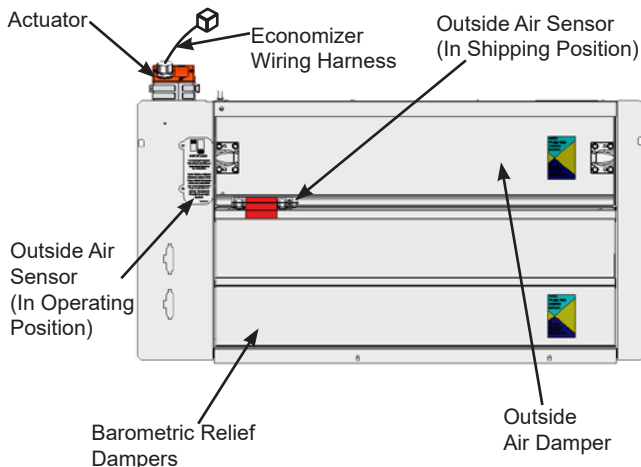
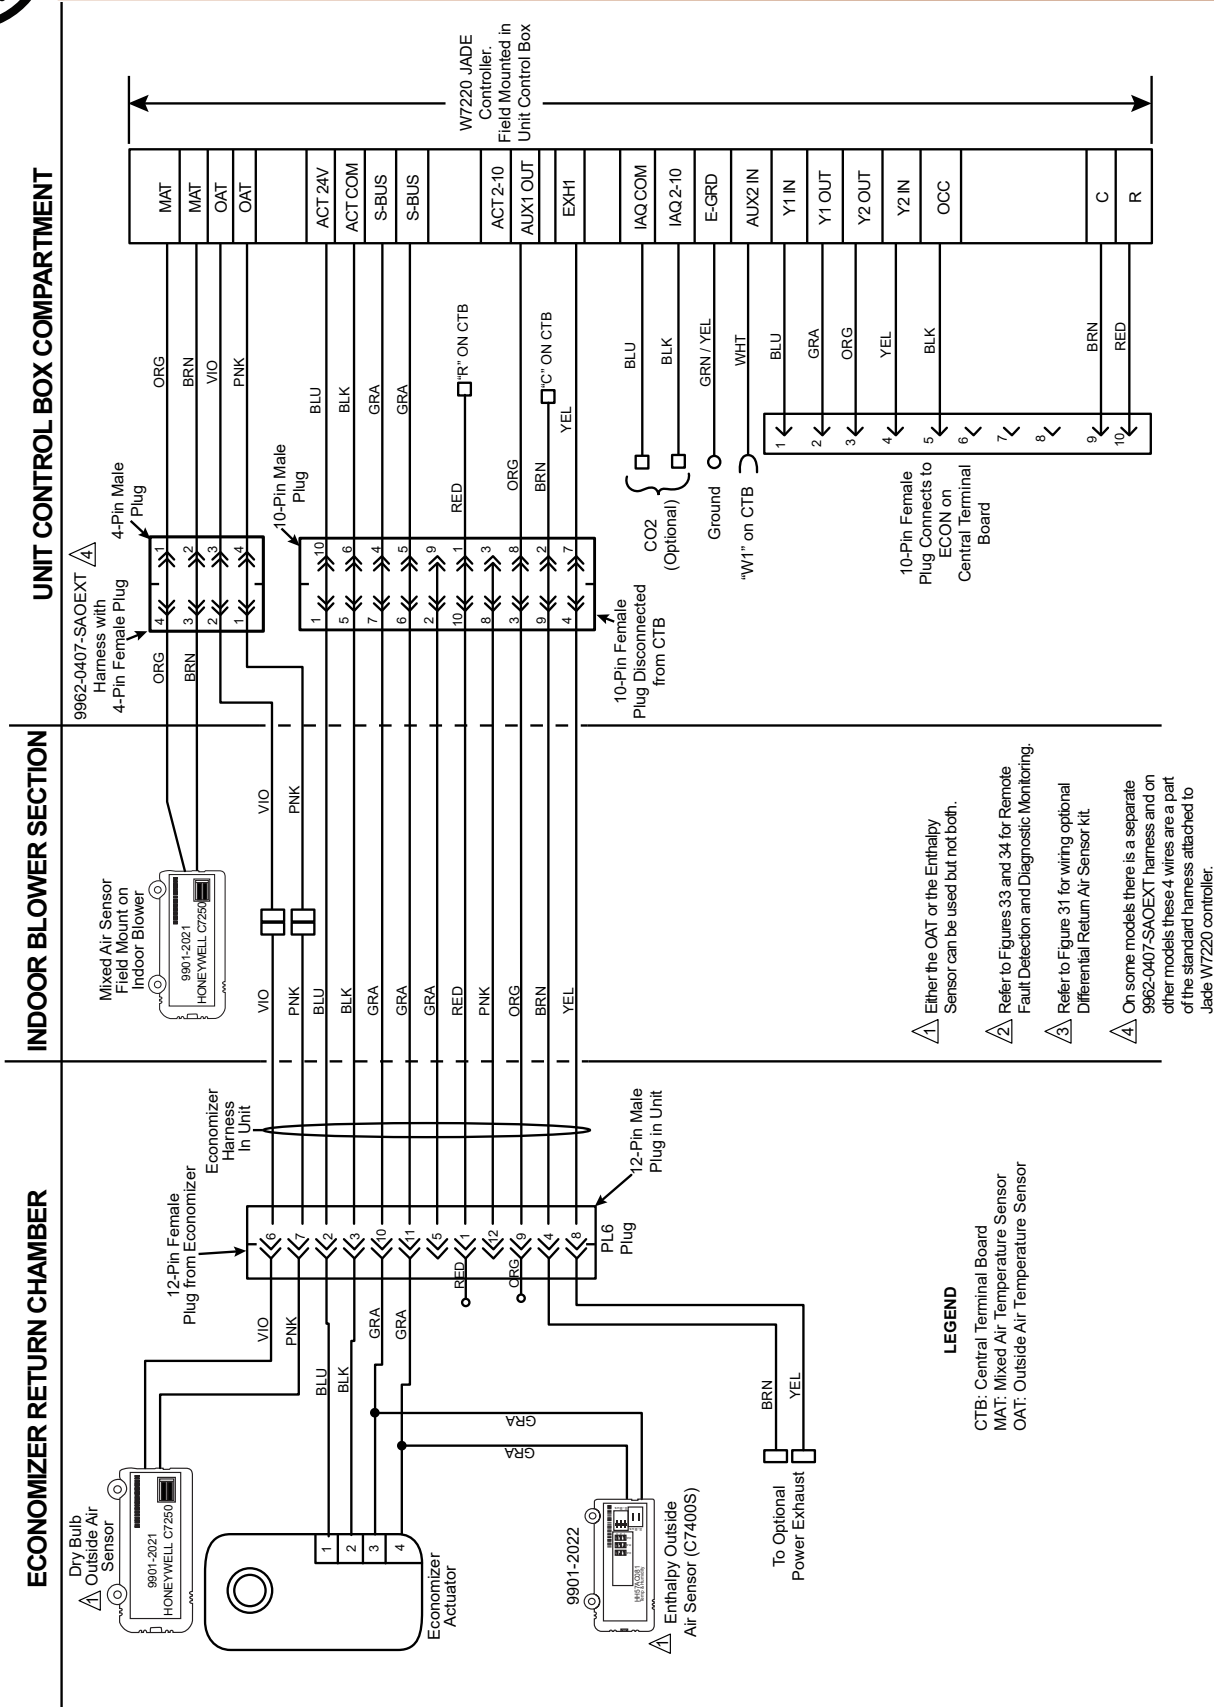

Fig. 1 - Economizer Component Locations — (ECD-SRT12CA-D2*H Shown)
Figure 23 – Typical Economizer Wiring Diagram for 1 or 2 Speed Units
Step 6: Remove the red tape securing the relief dampers for shipping purposes. Relocate the outside air sensor from its shipping location to its operating position, see Fig. 1
Step 7: If an economizer with a dry bulb sensor will be operating with an enthalpy outside air sensor, remove the factory installed 9901-2021 dry bulb sensor from the front face of the economizer (see Figure 1), and install the accessory enthalpy sensor 9901-2022 in the same location as the dry bulb sensor. Connect the (2) wire gray harness with plug from the economizer to the enthalpy sensor. See wiring diagram Figures 23 and 28. Refer to "9901-2022 Outside Air Enthalpy Sensor" section for more details on enthalpy settings
The (2) gray wires with a plug from the economizer harness in the return chamber plug directly into the 9901-2022 enthalpy sensor. See Figures 23 and 28 for wiring.
Refer to economizer wiring diagram Figures 23 and 28 and DCV instructions if demand control ventilation (CO2 sensor) is used. CO2 sensor will wire into the blue and black connections at the Jade controller as shown in Figures 23, 28 and 32. If a field installed CO2 sensor is connected to the economizer controller, a demand controlled ventilation strategy will operate automatically. As the CO2 level in the space increases above the setpoint (on the economizer controller), the minimum position of the dampers will be increased proportionally, until the Maximum Ventilation setting is reached. As the space CO2 level decreases because of the increase in fresh air, the outdoor damper will follow the higher demand condition from the DCV mode or from the free cooling mode.